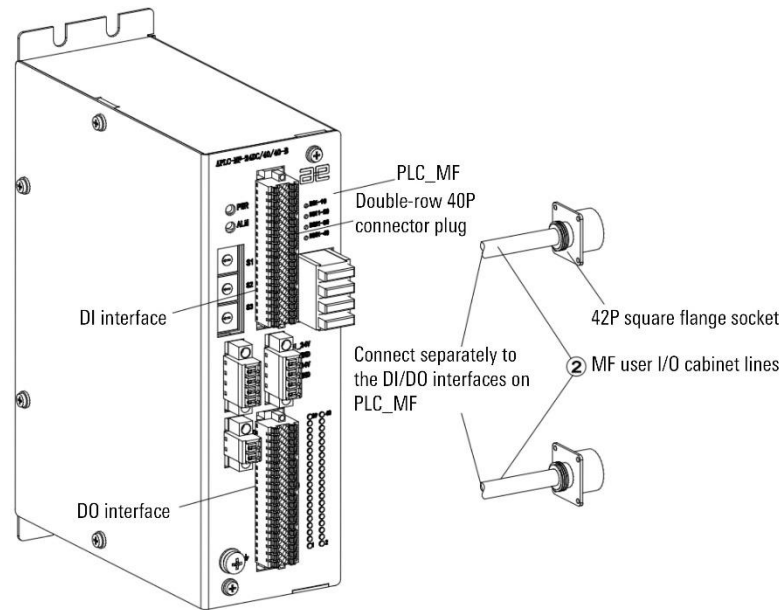

Figure 16-13 Connect the DI/DO interface on PLC\_MF
Step3. Plug the other end of ②MF user I/O cabinet cable into the DI/DO interface on PLC\_MF, refer to Figure 16-13.